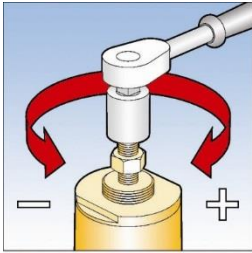

Fig. 5
4. For M.P. 50mm and 80mm unit, slacken locknut on spring adjusting stem and connect suitable spanner (24mm A/F) to hexagon of spring adjusting stem. See Fig. 5.